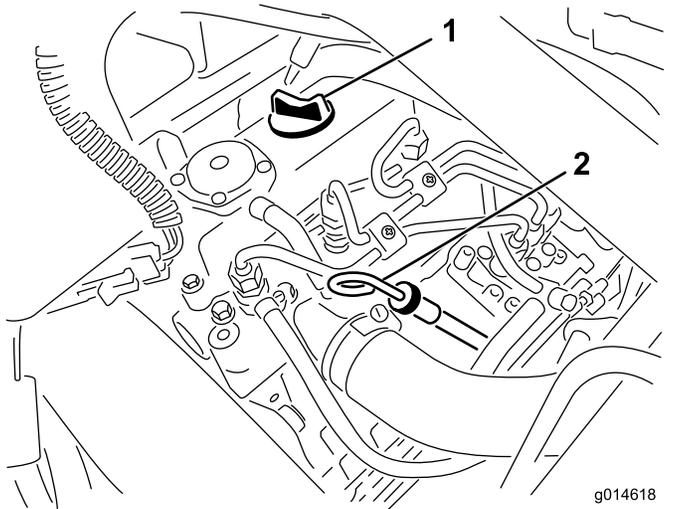

Figure 32
2. Remove the dipstick and wipe it with a clean rag (Figure 32).